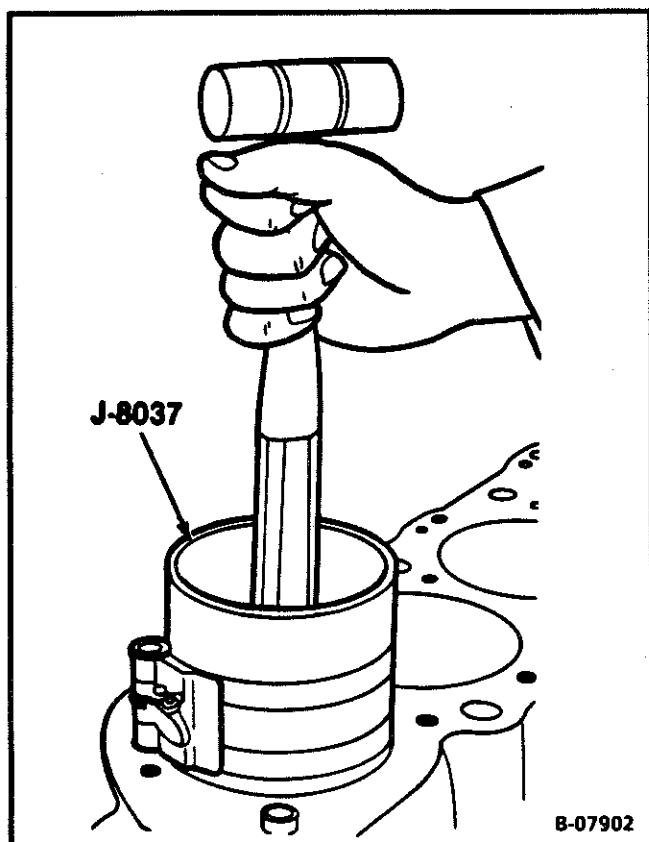

Figure 26 - Installing the Piston
- Use light blows with a hammer handle to tap the piston into its bore (Figure 26). At the same time, guide the connecting rod to the crankpin.